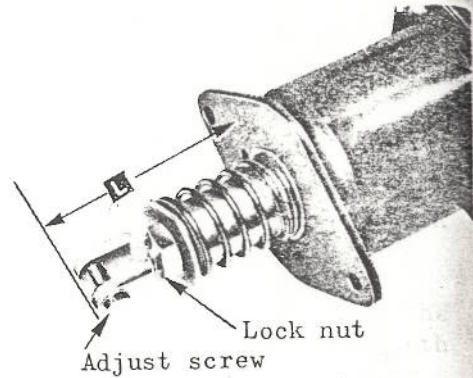

Fig. 10-112
- 2) After all the parts are reassembled, adjust the distance represented by L in Fig. 10-112 to 56.5mm and secure parts with the lock nut. Then mount the switch on the starter and make necessary adjustment in the following sequence.